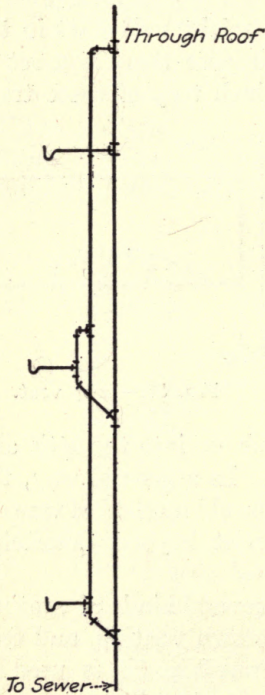

FIG. 57.—Continuous vent.
**Continuous venting**, Figs. 57 and 58, applies more to fixtures other than toilets. A P-trap is used and enters a T